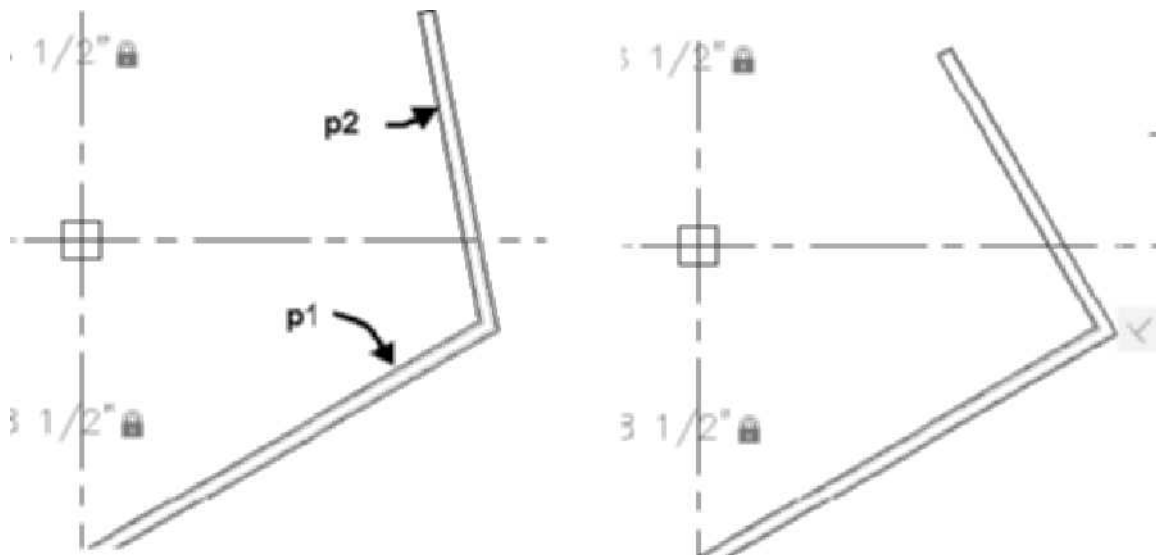

FIGURE 2.63 Placing the Perpendicular constraints
15. In this step you will use the **Perpendicular** constraint tool to modify the position of the wall at **p2** as shown in Figure 2.63. Select the interior wall at **p1** to display the wall contextual tab. Choose the **Perpendicular** command from the Parametric panel. Respond to the workspace prompts as follows:
Select first object: (Select the wall at **p1** as shown in Figure 2.63.)
Select second object: (Select the wall at **p2** as shown in Figure 2.63. The wall at **p2** is now perpendicular to **p1**. Press **Escape** to end the command.)